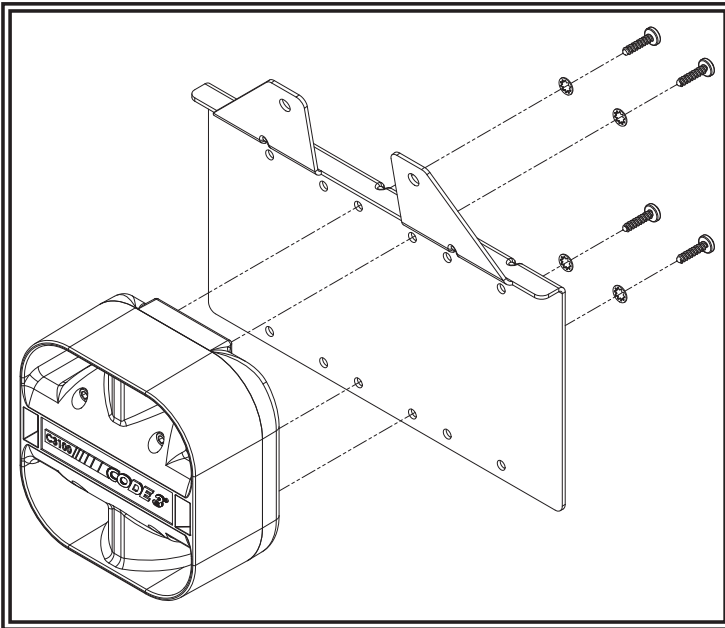

Figure 2
Step 3. Mount your desired speaker to the bracket as shown in Figure 2 and 3.